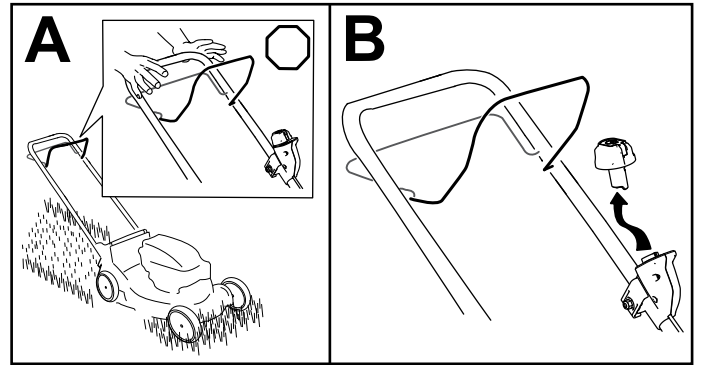

Figure 14
1. Release the blade-control bar (A of Figure 14).
2. Remove the electric-start button from the electric starter (B of Figure 14).